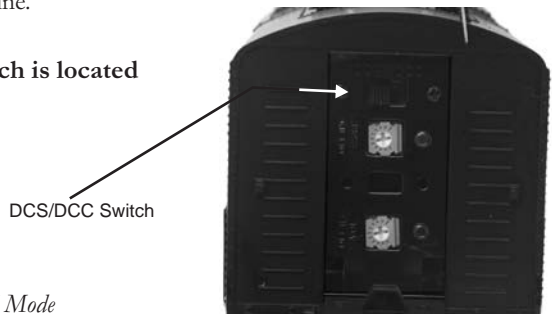

Figure 6: Changing from DCS to DCC Mode
****NOTE: You'll need to have the DCC/DCS switch set correctly if your using one of those two modes. It is depicted below in Figure 6, located at the rear of the Lead A unit.**